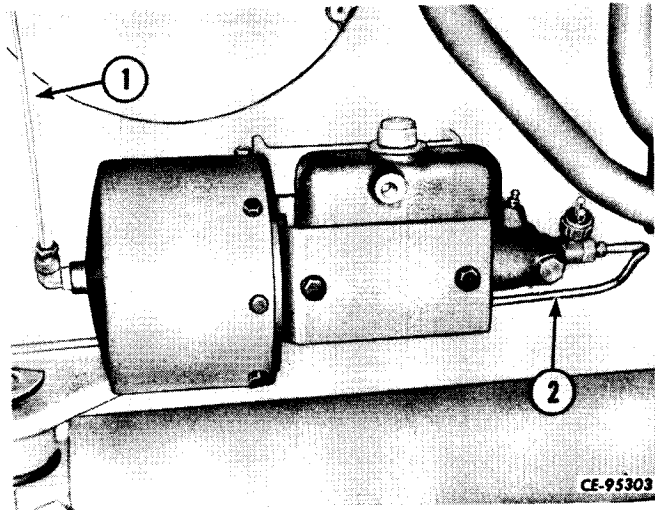

Figure 13-76
Place the power cluster on the tractor frame and fasten with the nuts and lock washers. Connect the air line (1, Fig. 13-76) and hydraulic line (2) to the power cluster.